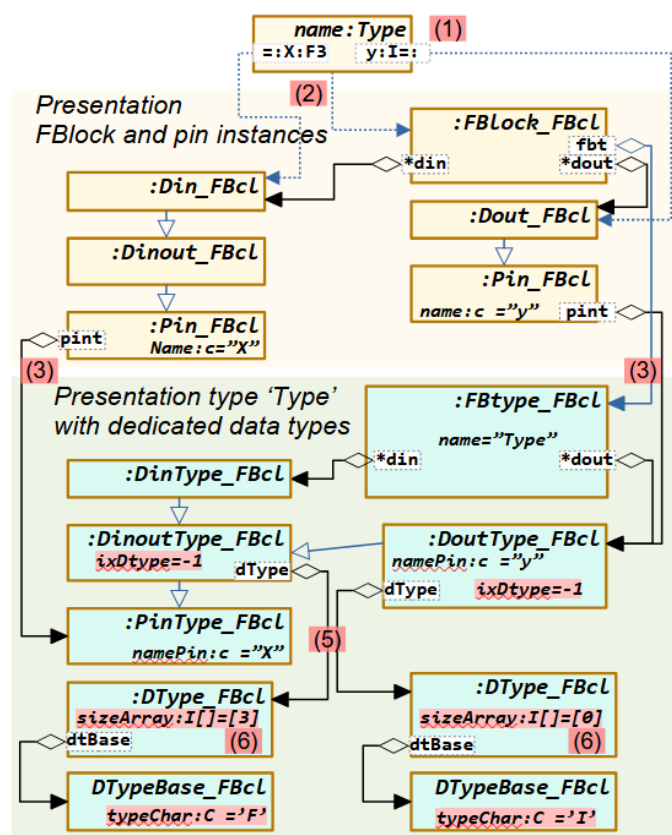

Figure 10: OFB/Pin-DTypeFix.png
Right side there is an *Figure 10: OFB/Pin-DTypeFix.png*. It shows on (1) a FBlock with two pins in an OFB graphic. Below it is presented how this graphic is mapped to internal Java data beginning on the ofcDependency connections.
(2) The FBlock in the OFB graphic is presented by an `FBlock_FBcl` instance in the Java data. The pins are referred from this `FBlock_FBcl` instance via `Din` and `Dout` as instance of `Din_FBcl` and `Dout_FBcl` which have its common super class `Dinout_FBcl` and then the super class for all pins `Pin_FBcl`, which contains the pin name.
(3) The Pin FBcl#pint \(www\) refers the `PinType_FBcl`, as well as the FBlock FBcl#fbt \(www\) refers the type of the FBlock in the OFB graphic. The Type of the FBlock presents the user type in the OFB diagram, here named with "Type".
(5) The data type of the pins are generally bounded to the DinoutType\\_FBcl#dType (www), data types are relevant only for Din and Dout pins, not for others. Because the DinoutType\\_FBcl#ixDType (www) is `--1`, this is the valid data type also for the pin itself via `Dinout_FBcl`.
(6) The `dType_FBcl` contains the array size, here 3 elements for X, and scalar for Y. Scalar is designated with a one dimensional array, but with number of dimensions `==0`. Whereas if `sizeArray ==null`, it is not defined.
To manage this, the `FBtype_FBcl` contains an element `FBtype FBcl#dTypes` (www) and the instances `FBlock_FBcl` contains also a `FBlock FBcl#dTypes` (www). This is shown in the *Figure 10: OFB/ExprReIm2Cplx\_DTypeDep.png* right side with the red aggregations (1). Some pins uses exact the same `DType_FBcl` from this aggregation, via the `DType_FBcl#usingPins(www)`, (5) and some other pins uses another `DType_FBcl` but with the same `DType_FBcl#depld(www)` (6)
But first let explain the class diagram right side. This image is similar the *Figure 10: OFB/Pin-DTypeFix.png* one side before, also the marker-numbers are the same. This image shows more context, and have simplified some inheritance contexts instead: